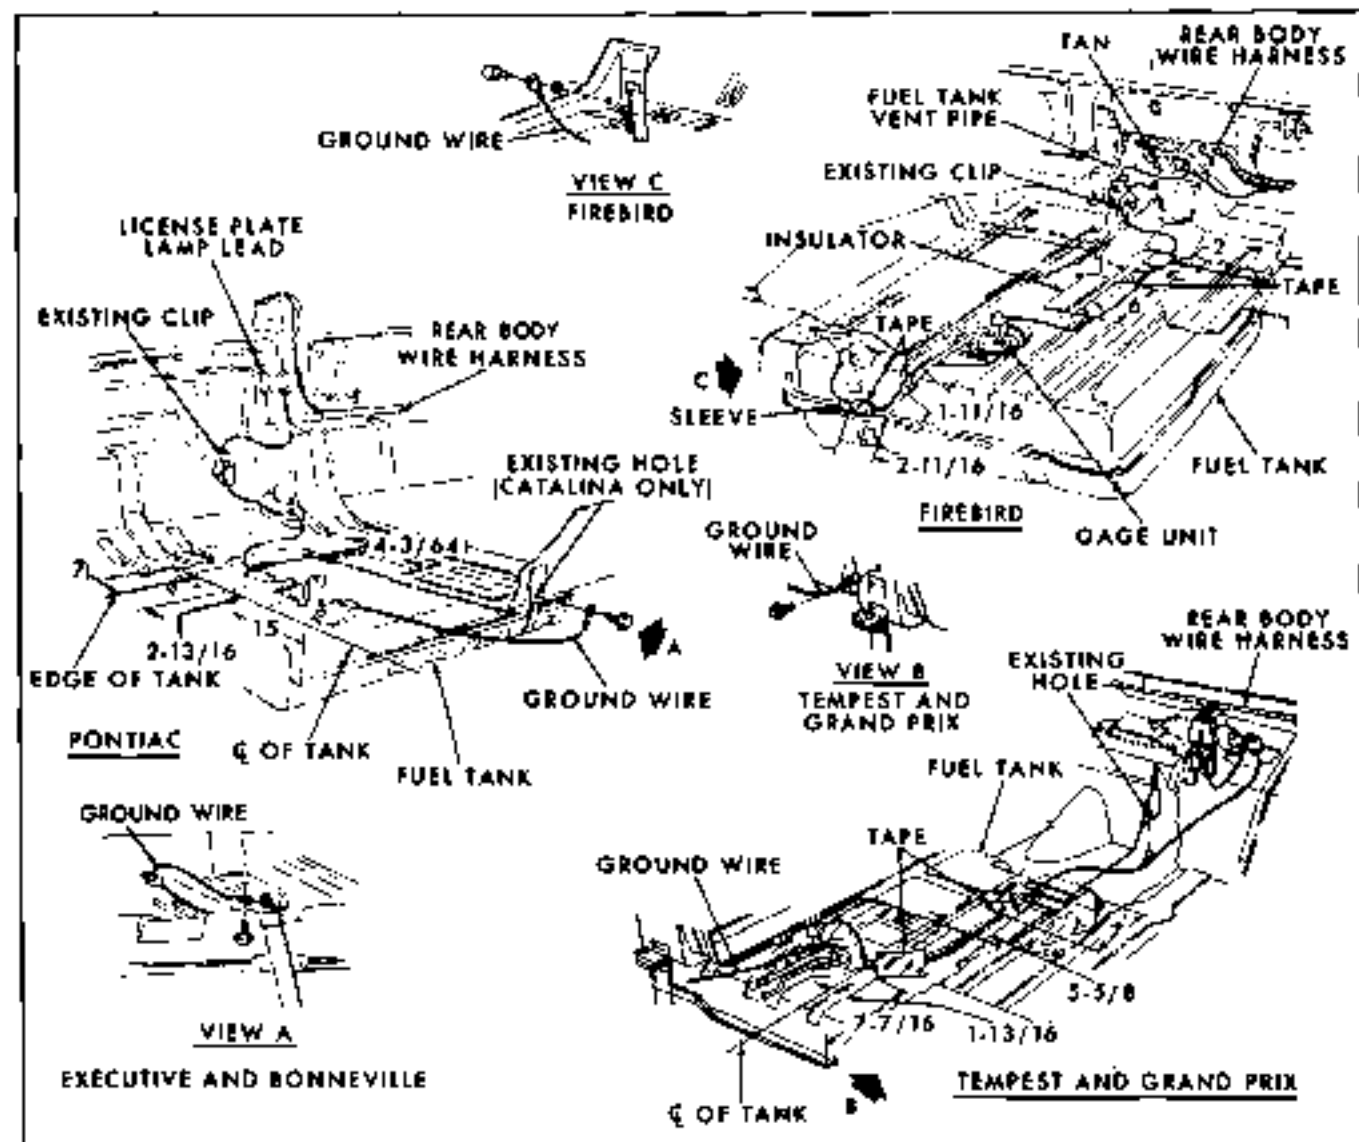

Fig. 8-10 Fuel Gage Wiring - except Station Wagon
3. Remove screw retaining ground wire (Fig. 8-10).